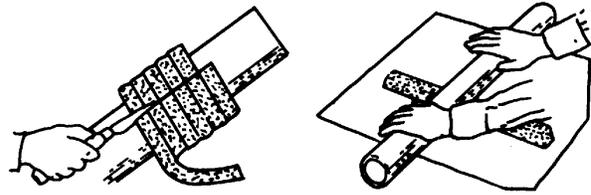

Figure F-4A.
Step 1: Determine how much bulk packing will be required to fill the seal cavity and wrap it around a rod the same diameter as the shaft. With the packing wrapped around the rod, cut through each turn as shown in Figure F-4A.